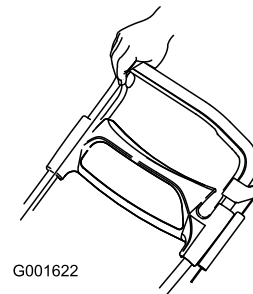

Figure 22
1. Squeeze the control bar against the right side of the handle (Figure 22).